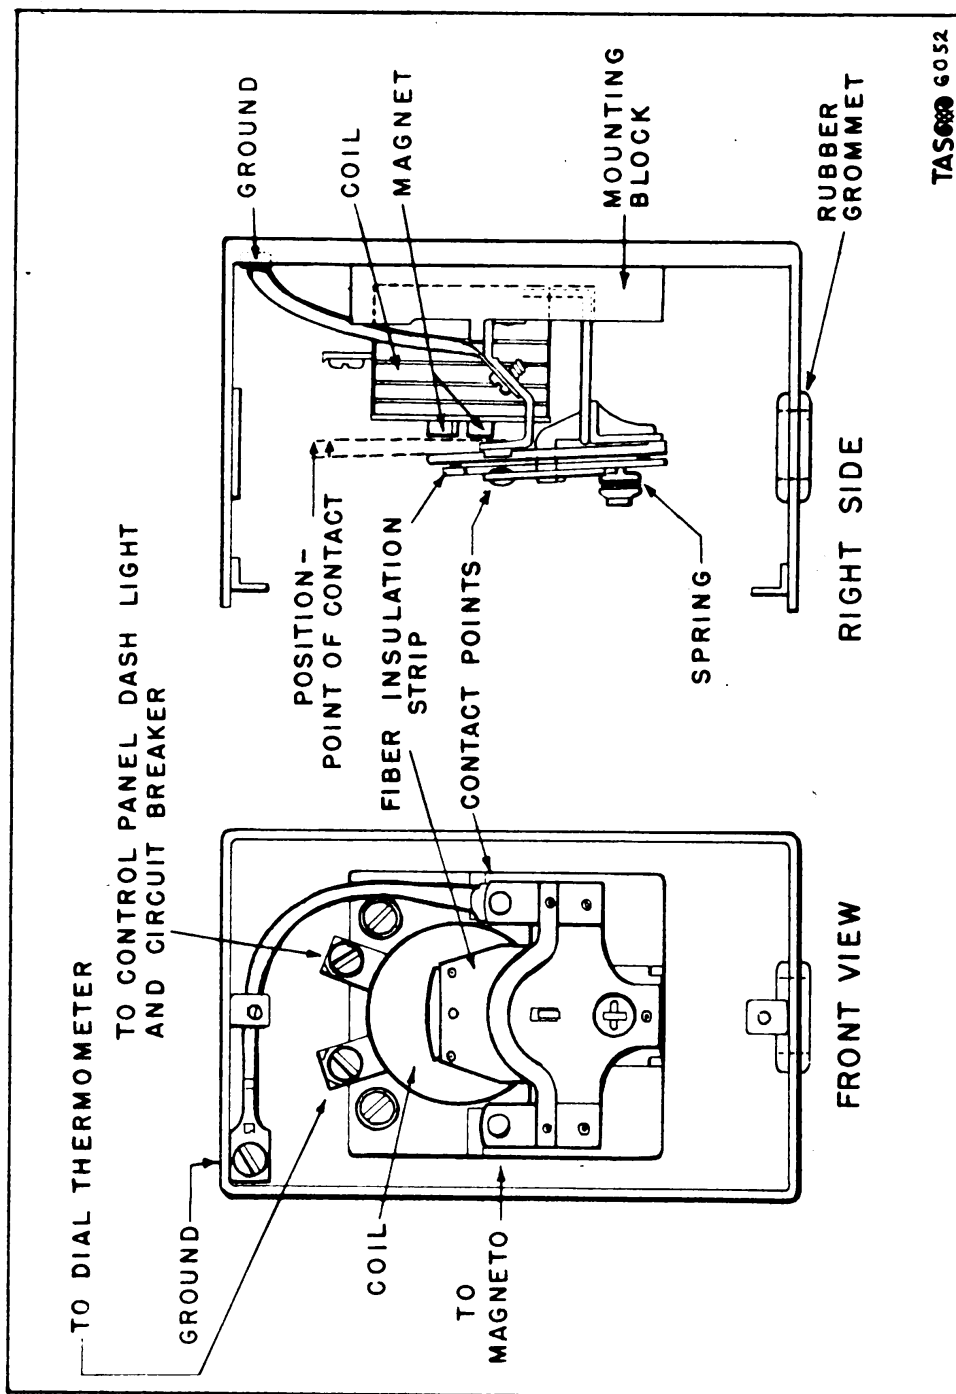

Fig. 52. Relay.
(5) From the circuit breaker one conductor leads through a 4-ohm resistor to the engine generator, from which two conductors lead through a step-up transformer (110 to 10,000 volts) to the electrodes in the combustion head assembly of the burner.
(6) Another conductor from the circuit breaker leads to the relay. (Fig. 52.)
(7) From the relay one conductor leads to the dial thermometer and ground, and another through the generator control panel dash light to a ground on the generator frame.
(8) Still another conductor from the relay leads to the engine magneto and thence to the engine spark plug.